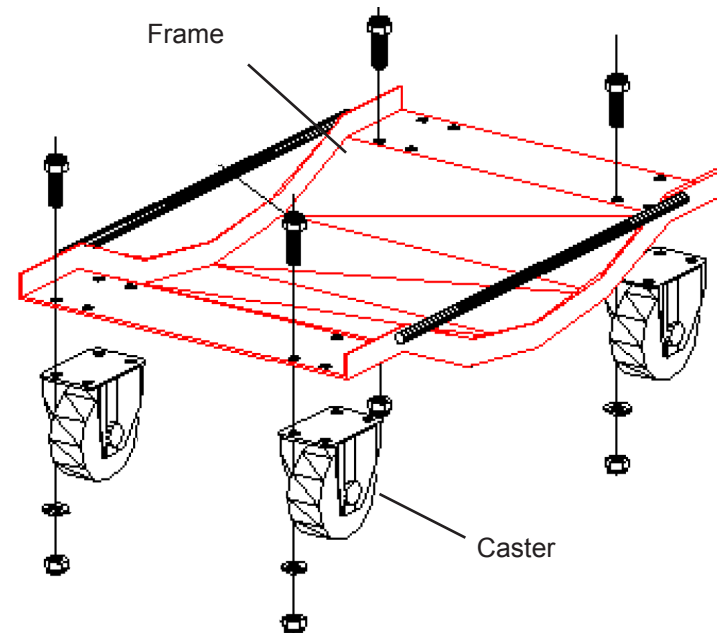

Fig. 1 - Car Dolly Nomenclature
**BEFORE USE** (refer to Fig.1 and Replacement Parts Illustration on Page 6 for location of components)